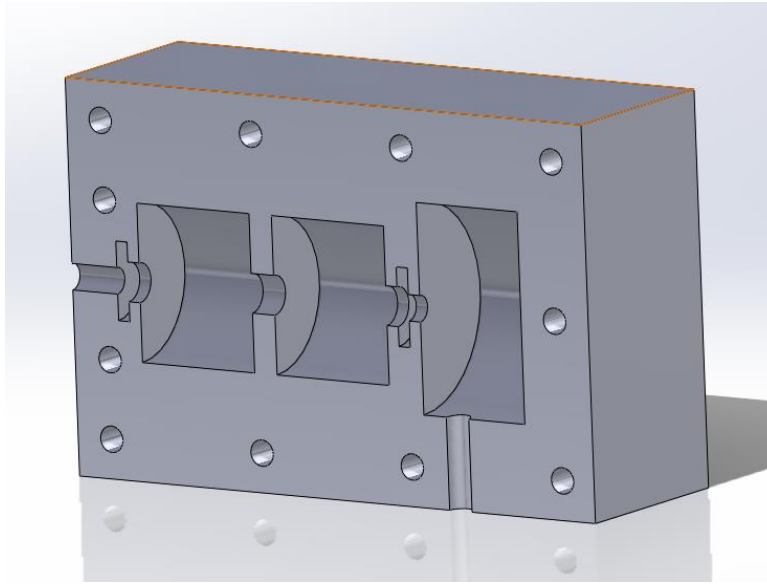

Figure 6: Disassembled Case Half (Part #001 & #002)
To change out the bellow and diaphragm, be sure that the case is relieved of all pressure. After the pressure is released, begin by removing the 11 bolts (005) that hold the case together. After removing the bolts, the case will come apart into two pieces, as shown in Figure 6.